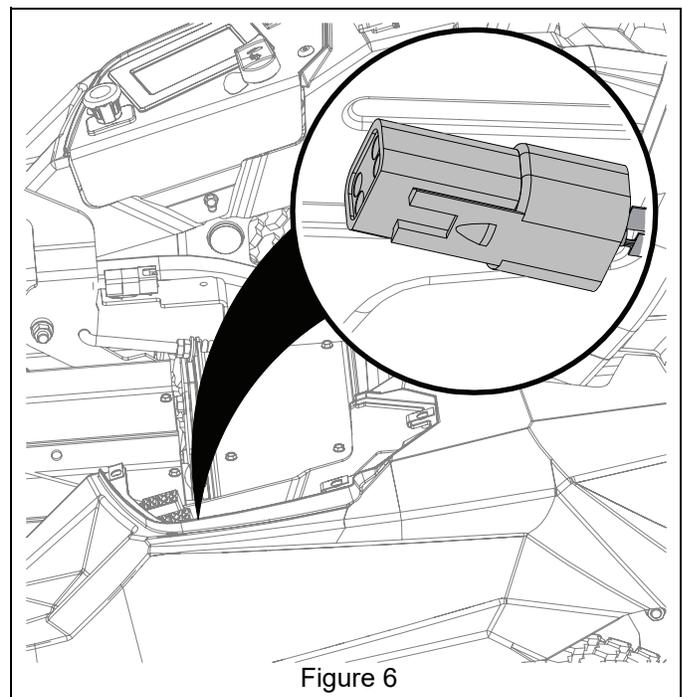

Figure 6
10. Locate accessory plug inside of left fender. See Figure 6.